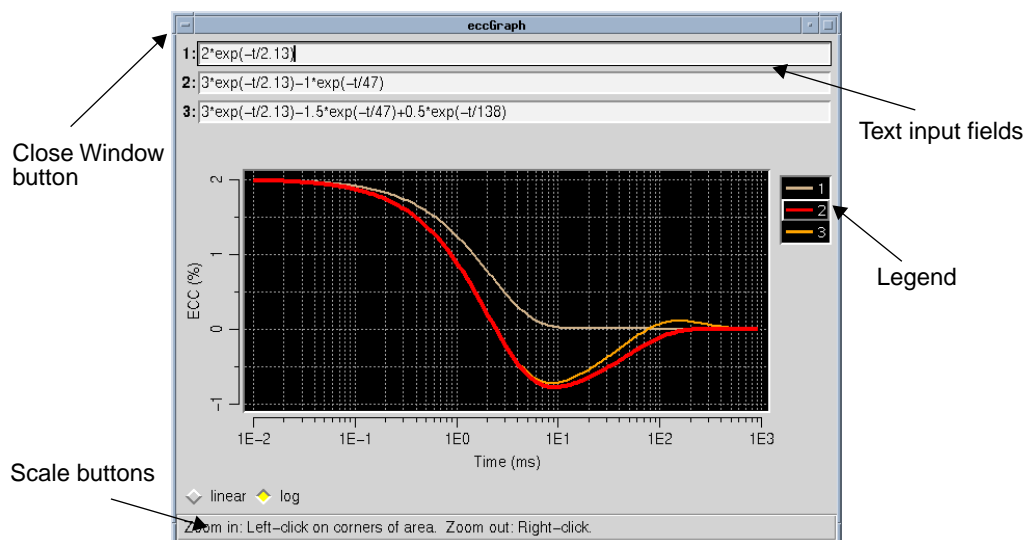

Figure 98. eccGraph Window
2. Click on the **Graph** button. The window shown in Figure 98 opens.
The equation for each line appears in the text input fields; you can graph arbitrary functions by typing an expression into one of the boxes and pressing the **Return** key. A legend indicates the line colors used for each expression. Left-clicking the mouse on a legend entry highlights the corresponding line in the graph. In Figure 98, line number 2 is highlighted. By default, a logarithmic scale is used for the time axis, but you can select a linear scale with the scale buttons.